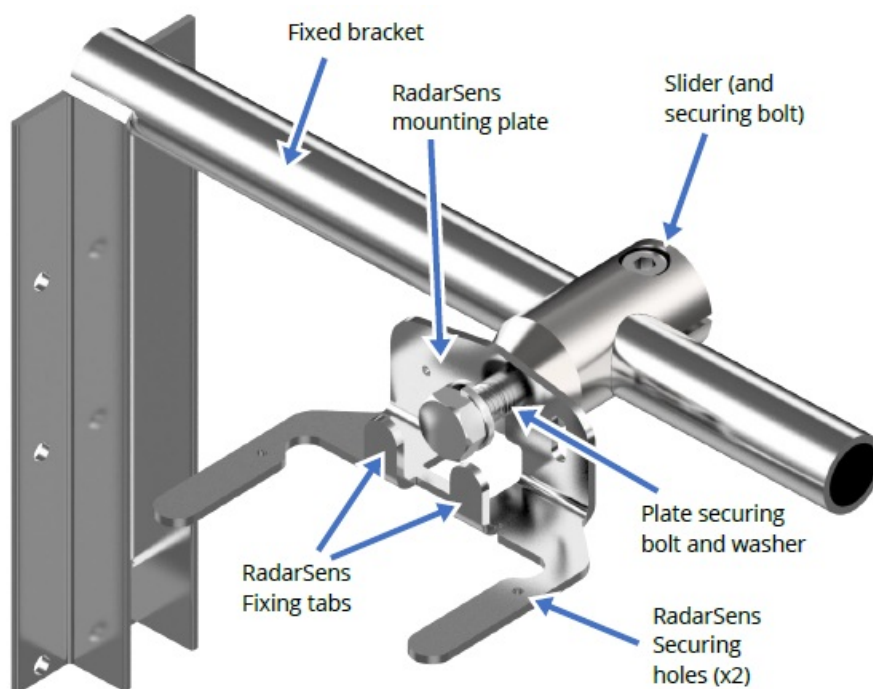

Figure 12. Fixed bracket detail
- This solution mounts the RadarSens onto a wall-mounted L-shaped bracket, as shown in Figure 9. Refer to Figure 12 for details. The horizontal arm of the bracket should be positioned at right-angles to the direction of the water channel. Drill appropriate fixing points and then mount the bracket onto the chamber wall. The center of the bracket arm needs to be mounted approximately 26 mm above the expected position of the base of RadarSens. (e.g., if a 3m range is required, mount at a 3.026m height. Refer to Figure 7.)